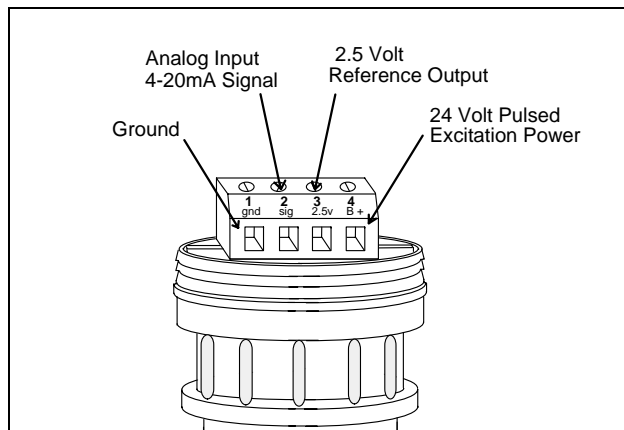

Fig. 1 IP-24VBMA Terminal assignment.
The four screw terminals are used to connect the sensor. If the sensor does not need excitation power, only two of the terminals are used. The first screw terminal (1) is common ground. The second screw terminal (2) is an analog input that has a useful input range of 0 to 20 milliamperes. It has a  $125\Omega \pm 0.1\%$  input impedance to eliminate loop voltage loss. The next two screw terminals (3,4) offer excitation for the sensor. The third screw terminal (3) is a precision 2.500 volt excitation output. This output has minimal drive capability (5 milliamperes maximum). The power is pulsed on for a short duration then turned off. The length of the on time power pulse can be set when programming the Data Logger's header. The fourth screw terminal (4) is a 24 volt switched output. The voltage level of the 24 volt terminal does not depend on the battery system being used with the Data Logger. The 24 volts is generated even if the battery system may only be supplying 6 volts. The on-time is the same as that for the 2.500V precision excitation output. Fig. 1 shows the position of the screw terminals.